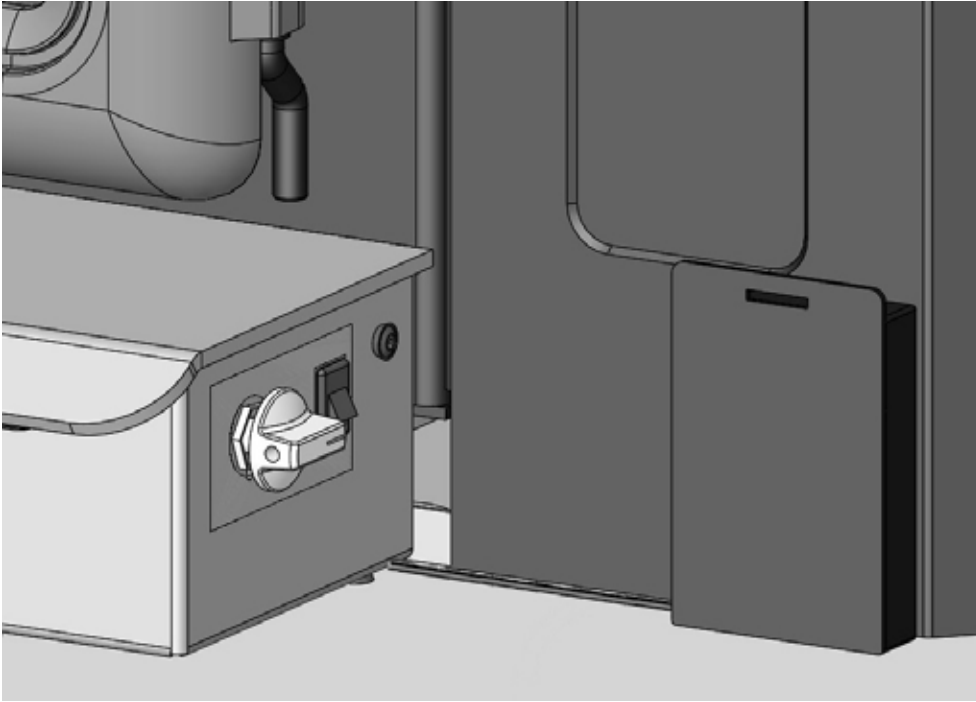

Figure 28: Battery box placement.
4. Place the batteries into the battery box and place the battery box on the outside edge of the surround with the wires facing down. Figure 28
5. Route the wire from the battery box down and into the gap between the blower assembly and the casing bottom on the unit. Figure 28
6. Re-install the Blower assembly, being careful to not pinch the wires from the battery box. Figure 28